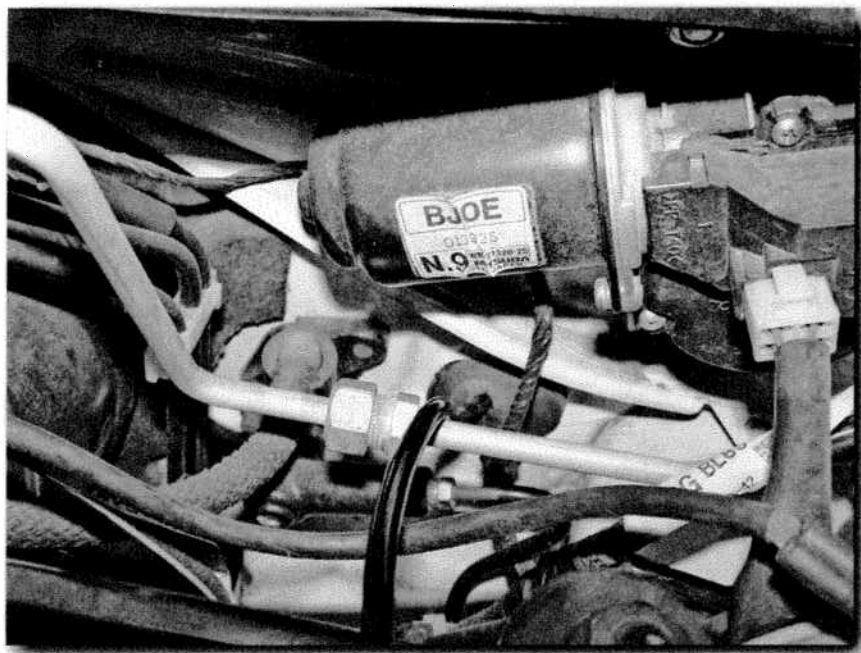

FIGURE 3-17: Run the attached power cable through the firewall.
3. Now pull the coat hanger with the wire attached through the hole in the seal into the passenger compartment, as shown in Figures 3-17 through 3-19. Don't use the short Street Wires cable; it will be used to connect from the fuse to the battery!